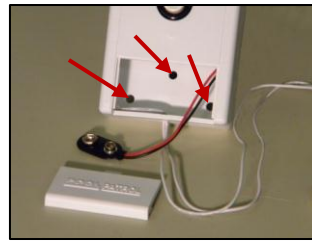

Figure 2 Mounting Holes
3. The mounting holes are located inside the battery compartment (Figure 2). Use these